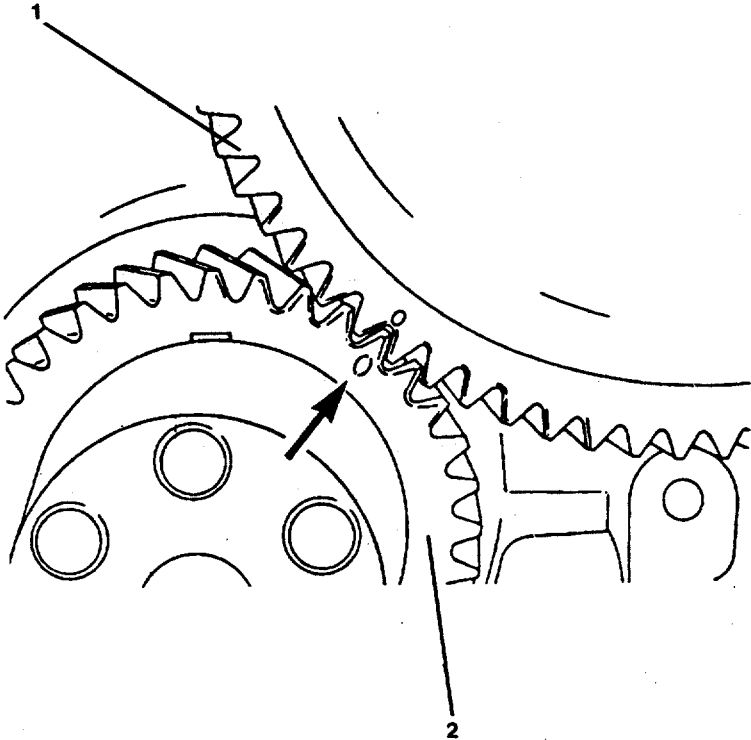

FIGURE 3-71. Aligning Gear.
- j. Use a dial indicator to check the backlash between the camshaft gear (1, FIGURE 3-71) and the crankshaft gear (2).